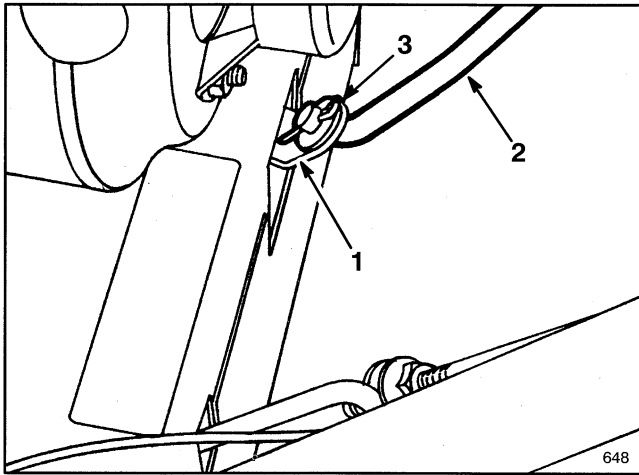
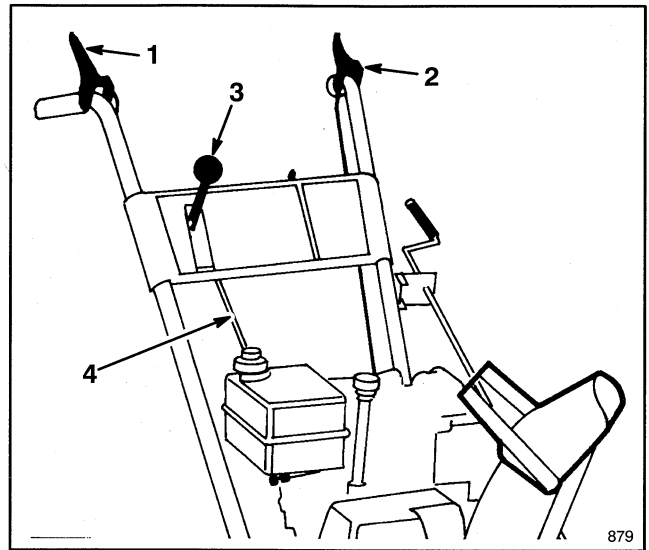

Figure 4
Figure 6
1. Pull speed selector arm (Fig. 4) to the fully "out" position and move speed selector (Fig. 6) on control panel to the R (REVERSE) position to ease assembly.
2. Install speed selector rod into selector arm, add one flat washer on the selector rod and secure with cotter pin (Fig. 4).
4. Adjust the two flange nuts up or down on the traction control rod until the distance between the top of the handgrip and the bottom of the traction control lever (Fig. 6 and 7) is approximately  $4\frac{3}{8}$  inches. **This is a preliminary setting only.** Tighten the two flange nuts finger tight.
5. Move speed selector (Fig. 6) into third gear.
3. Check the distance between the top of the handgrip and the bottom of the auger control lever (Fig. 6 & 9). Distance should be approximately four inches. **This is a preliminary setting only.**